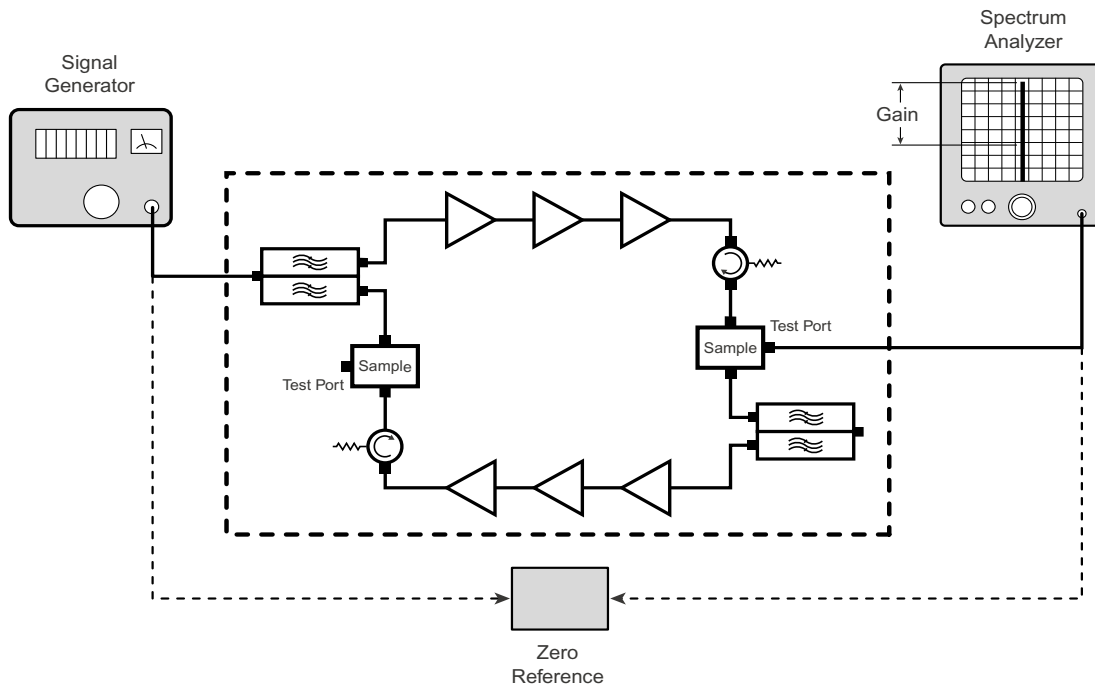

Figure 8: Measuring signal booster gain.
- 1) Measure the gain of the signal booster being careful not to exceed the maximum input level. The recommended maximum RF Input power for the SBII is -15 dBm. Stronger input signals will cause the unit to exceed its maximum IM specifications. Input signals which are stronger than 0 dBm will physically damage the unit. **Figure 8** shows this being done using a signal generator and spectrum analyzer. Record the measured values for each passband. We recommend that a 50 ohm load be connected to the unused RF port on the bottom of the cabinet during the gain test.